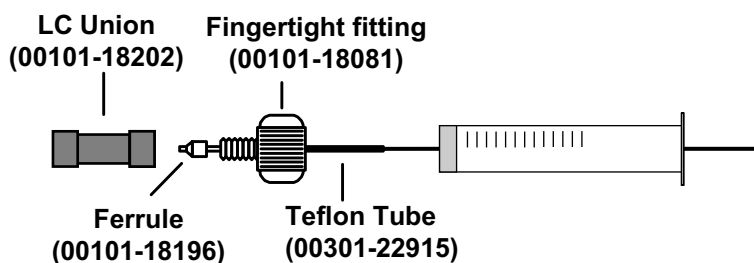

Figure 4-2. Syringe and syringe adapter assembly
- c. Remove the tip of the syringe needle from the end of the Teflon tube on the syringe adapter assembly. See Figure 4-2.
5. While holding the plunger of the syringe in place, carefully reinsert the tip of the syringe needle into the end of the Teflon tube on the syringe adapter assembly. (Figure 4-2)